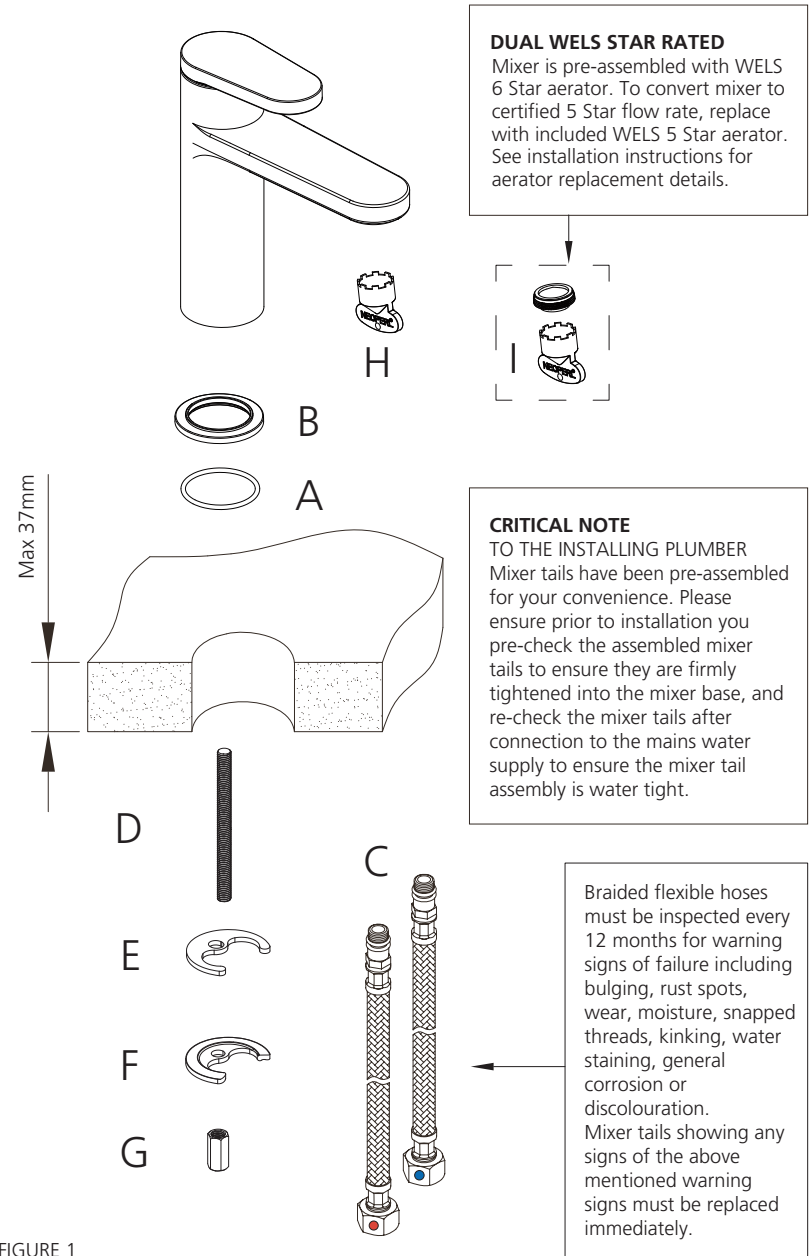

FIGURE 1
N.B To convert to a 5 Star WELS compliant mixer, the installed aerator is to be removed using the Aerator key (H) and replaced with the included 5 Star WELS aerator (I).
3. Ensure Product is complete as per exploded drawing (Figure 1).
6. Ensuring bench Sealing Washer (A) is in place on base of Mixer Dress Ring (B), firmly screw the Mixer Tails (C) into base of the Mixer being careful to avoid damage to the o'ring seals. The Mixer Tails are colour coded, red for hot and blue for cold and the mixer base inlet holes are stamped with 'H' for hot and 'C' for cold. Hand tighten only.
7. Screw Threaded Rod (D) into base of Mixer.
8. Feed the Mixer Tails(C) through the Mounting surface, each end alternatively and position the mixer on the mounting surface ensuring the Sealing Washer (A) is positioned correctly in Mixer dress ring (B).
9. Slide Rubber Horse Shoe (E) onto Threaded Rod (D) followed by Metal Horse shoe Plate (F).
10. Using Fixing Nut (G) tighten Mixer to mounting Surface.
12. **Ensure the Mixer Tails (C) are not kinked, bent, stretched or twisted when assembling to the mains water supply. The mixer tail connection between the mixer and the water supply must have a natural curve (minimum bend radius 30 mm).**